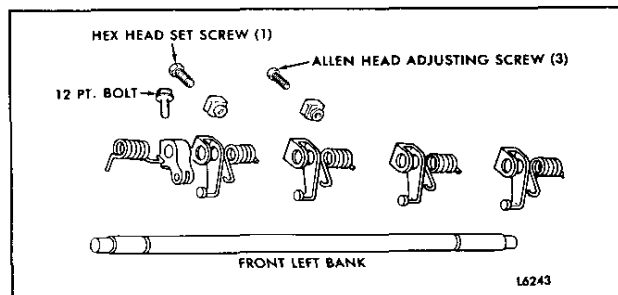

Fig. 2 - Injector Rack Control (Left Bank)
2. Check to determine that the hex head set screw in No. 1 and No. 2 (Cylinder Position) rack control lever has been correctly installed. If not, tighten it securely. This lever is not adjustable. The set screw must be bottomed (Fig. 2).